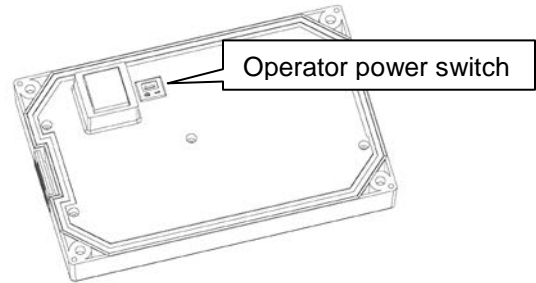

Figure 2: Back of Operator
2. As seen in Figure 2, set the power switch to "1". Plug operator back into drive.